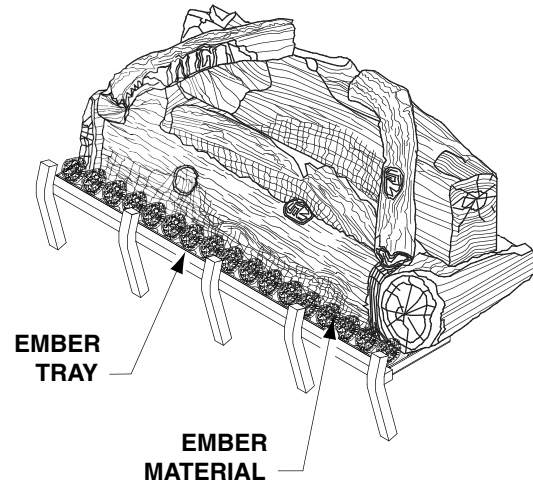

Figure 32 - Applying Ember Material
5. Break apart about quarter sized pieces and place about a single layer along the full length of the ember tray to hide the bottom edge of the base log. (see **Figure 32**).